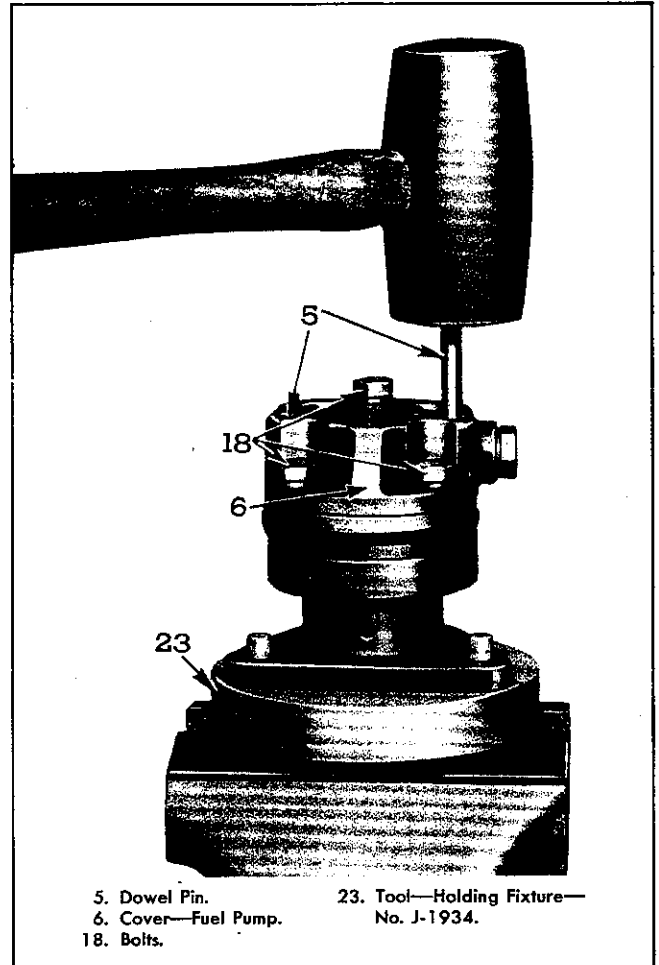

Fig. 43—Replacing Pump Body and Cover in Fuel Pump While Holding Pump in Fixture—Tool J-1934.
7. Replace the cover-to-body bolts and draw finger tight only. Remove the special guide pins and drive the two dowels, shown in Fig. 43, into place.